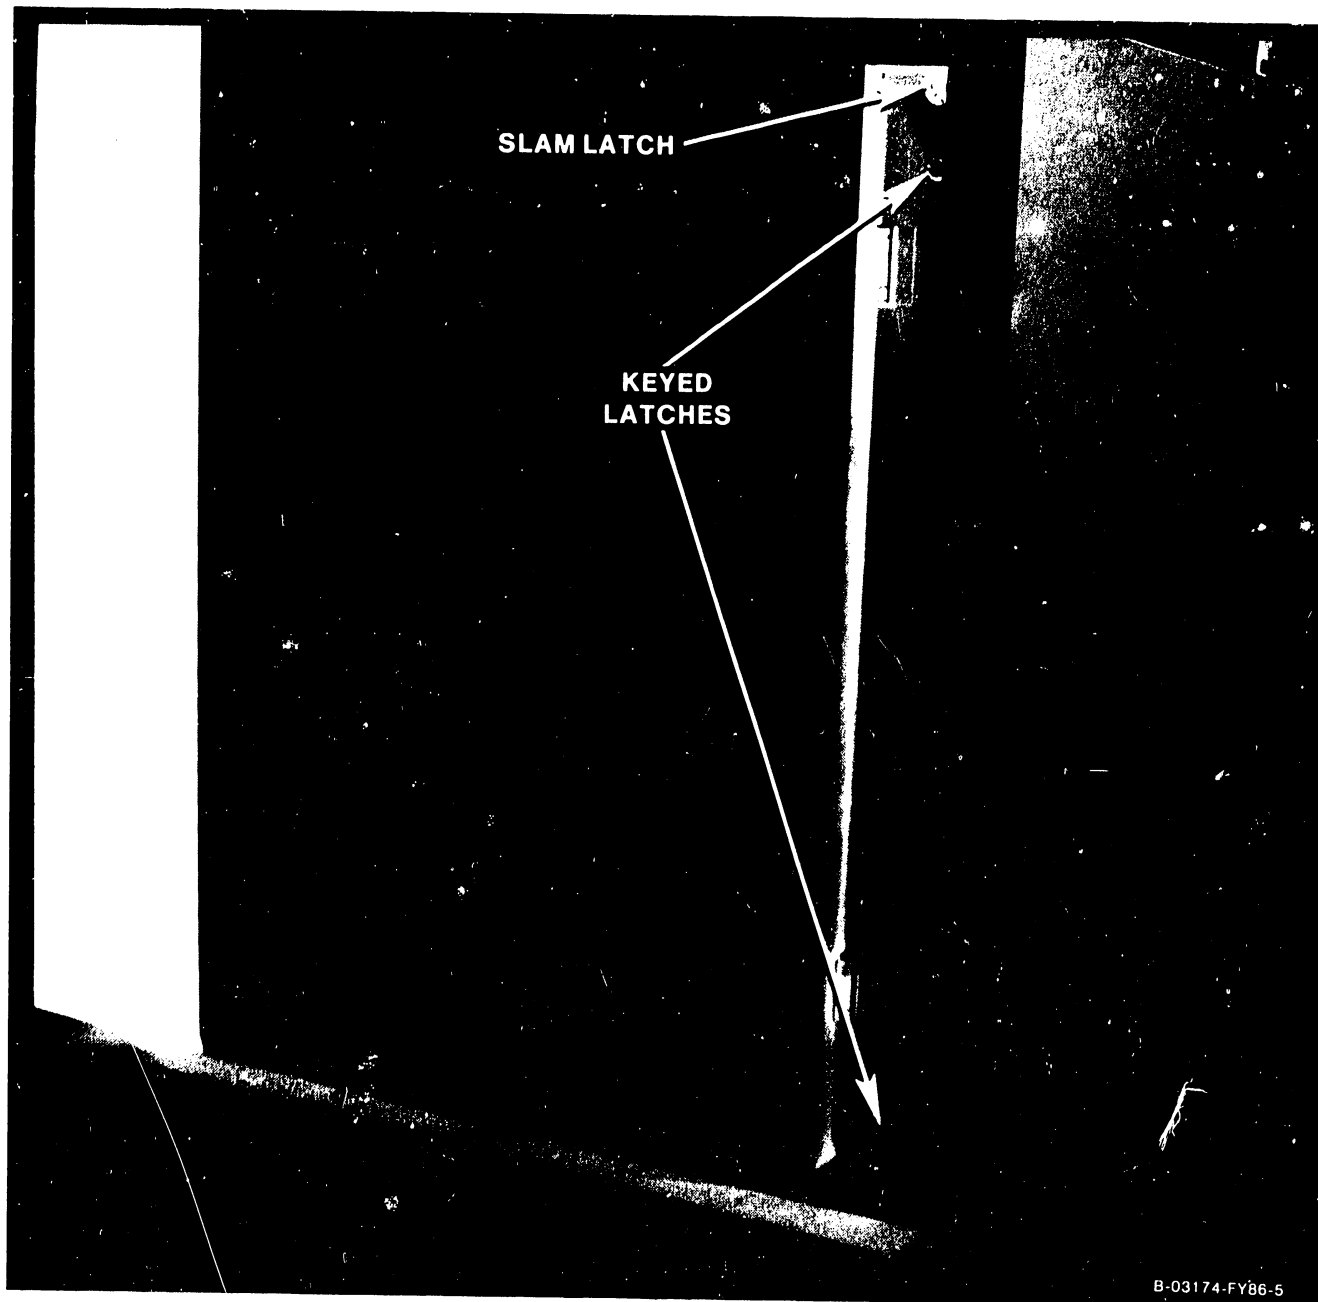

Figure 7-6. VS-7100 Front Door
1. Open the front hinged door by turning the top and bottom keyed latches (figure 7-6) counterclockwise, then unlock the slam latch, and remove the black card cage cover by turning the 1/2 turn fasteners.